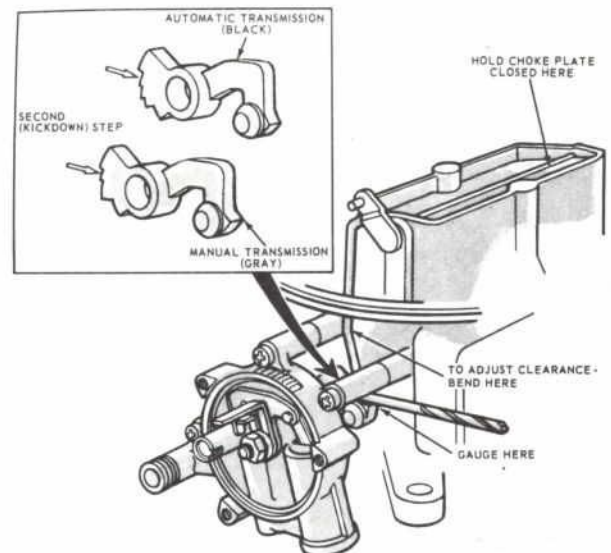

Figure 4—Cobra Jet Fast Idle Cam Adjustment
4. Bend a 0.036" wire at a 90° angle approximately $\frac{1}{16}$ to $\frac{1}{8}$ inch from one end. Insert the bent end between the lower edge of the piston slot and the upper edge of the slot in the choke housing (Fig. 4). Open the throttle lever to about $\frac{1}{3}$ throttle and rotate the choke lever counterclockwise so the bent end of the wire is held in the housing slot by the piston slot with light pressure applied to the choke lever. Measure
the distance between the air horn and the down side of the choke plate (Fig. 4). If the setting is not to specification, bend the adjusting tab on the choke lever to obtain the specified clearance.
6. Connect a tachometer to the engine. With the engine operating and temperature stabilized, set the fast idle screw on the kickdown or second high step of the fast idle cam (Fig. 4).